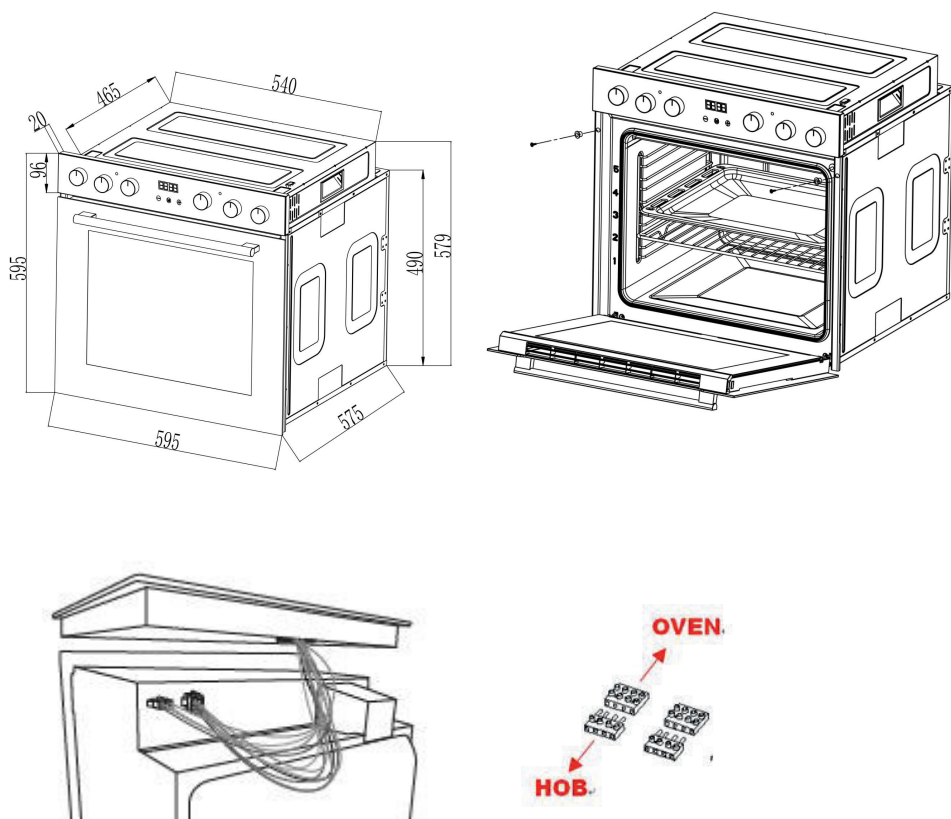

figure 3
2. Installing the oven: (As shown in figure 3)